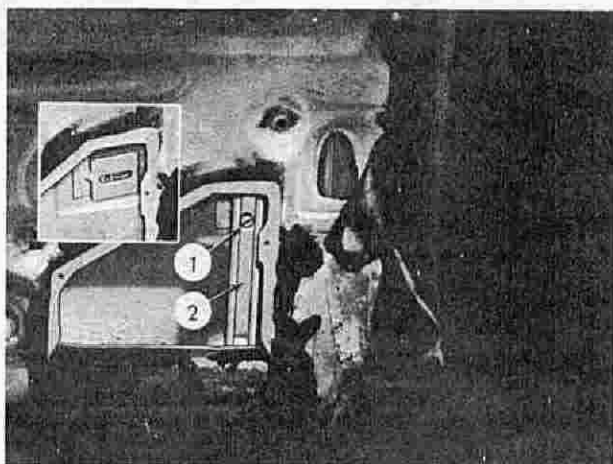

FIG. 188
wire. Remove the plug button at the top of the door lock pillar post, insert the wire and unhook the spring from the guide. Raise the window, then at the lower end of the vertical guide, remove the pivot screw (1, Fig. 188), spacer, and spring washer.
The lower end of the vertical guide can be moved forward or rearward in a slotted bracket (see inset, Fig. 188) by loosening the pivot screw (1). This adjustment controls the forward or rearward movement of the window and permits the alignment of the quarter window against the door window.